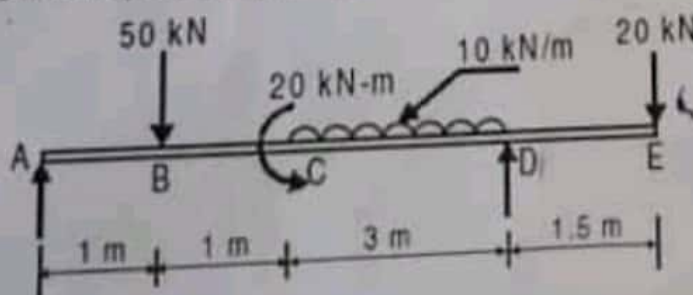

Fig. 2
- 4/✓ Draw the S.F. and B.M. diagrams indicating values at salient point for the beam shown in Fig.2 and also find the point of contraflexure. [20]